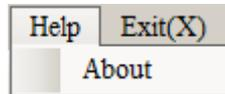

Fig. 4-9
4.2.6 Help menu (Shown as Fig4-9)